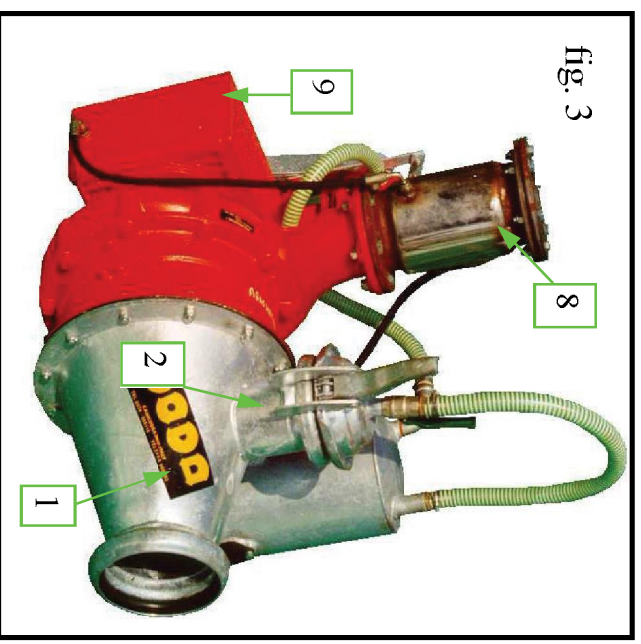

fig. 3
Fig. 3 shows a version with a “IV” unit for connecting to internal combustion engines (Diesel engines are most suitable), which allows to utilize a lower RPM. This system multiplies the impeller speed compared to the engine. This version is provided with an oil-cooling system.
- fill intake cone with water or liquid manure through the special opening 2 fig. 3. Use vacuum pump for quicker priming (See section “OPTIONALS” pg. 11);
**WARNING:** never operate the pump NO-LOAD, without filling the cone 1 fig. 3 through the special filling opening (cap) 2 fig. 3